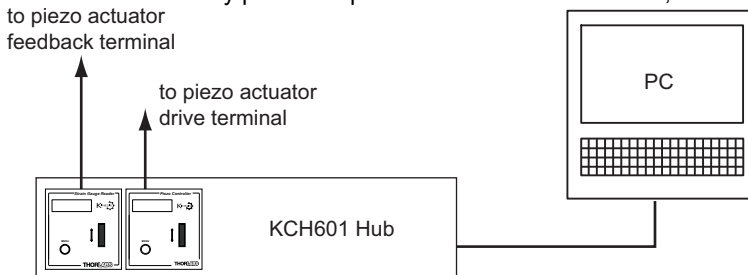

Fig. 5.3 Typical System Set Up - Hub Operation
The following procedure describes a typical set up, when a KPZ101 piezo driver cube and a KSG101 Strain Gauge Reader are used on the KCHx01 controller hub to drive a piezo actuated stage - see Fig. 5.3 for a general system schematic diagram.
- 2) Install the K-Cube units onto the controller hub. Fit the Piezo unit in bay 1, and the Strain Gauge Reader in bay 2 as shown in Fig. 5.3.